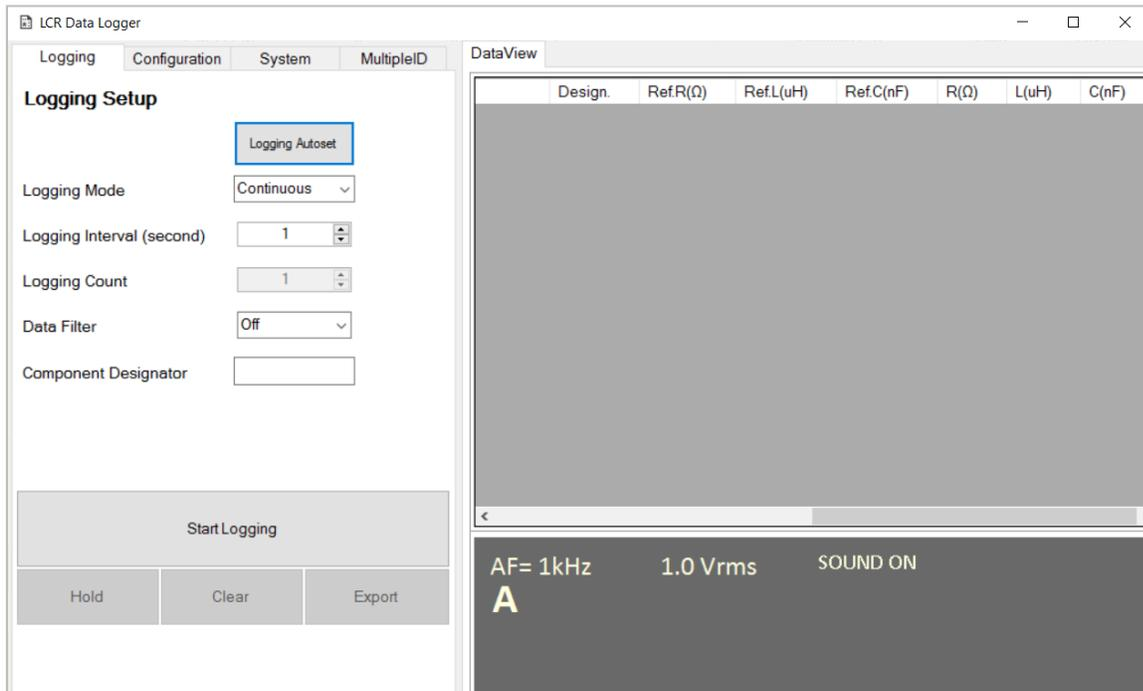

Figure 3-3: Message that Device being Connected
4. The LCR Data Logger software will connect to the LCR Pro1 automatically. Once connected, you will see a duplicated device display from the bottom right on GUI as Figure 3-3 shows.